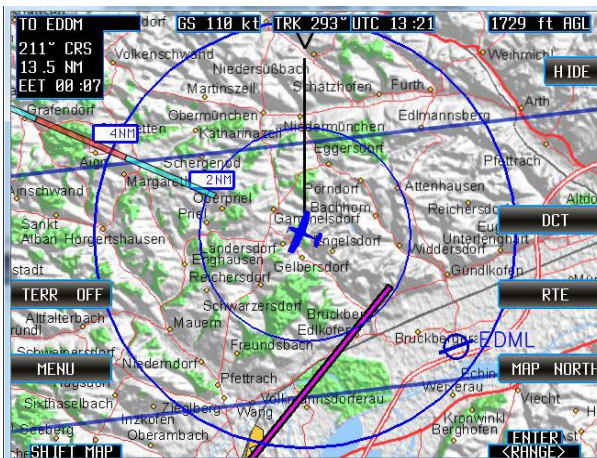

Figure 46: Direct-to "DCT", After the aircraft has moved further away
- The bearing line is displayed on the map (Figure 46).